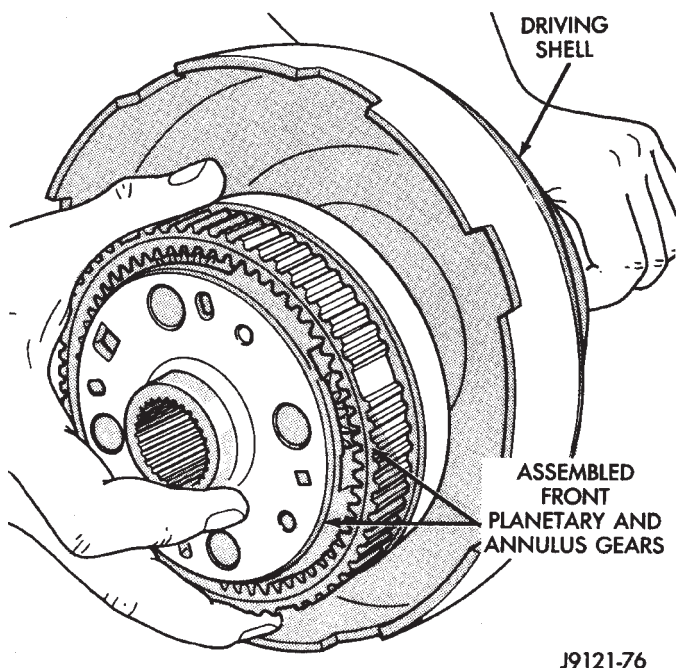

Fig. 87 Installing Front Planetary And Annulus Gear Assembly—46RH
(12) Install front planetary and annulus gear assembly (Fig. 87). Hold gears together and slide them onto shaft. Be sure planetary pinions are seated on sun gear and that planetary carrier is seated on output shaft.